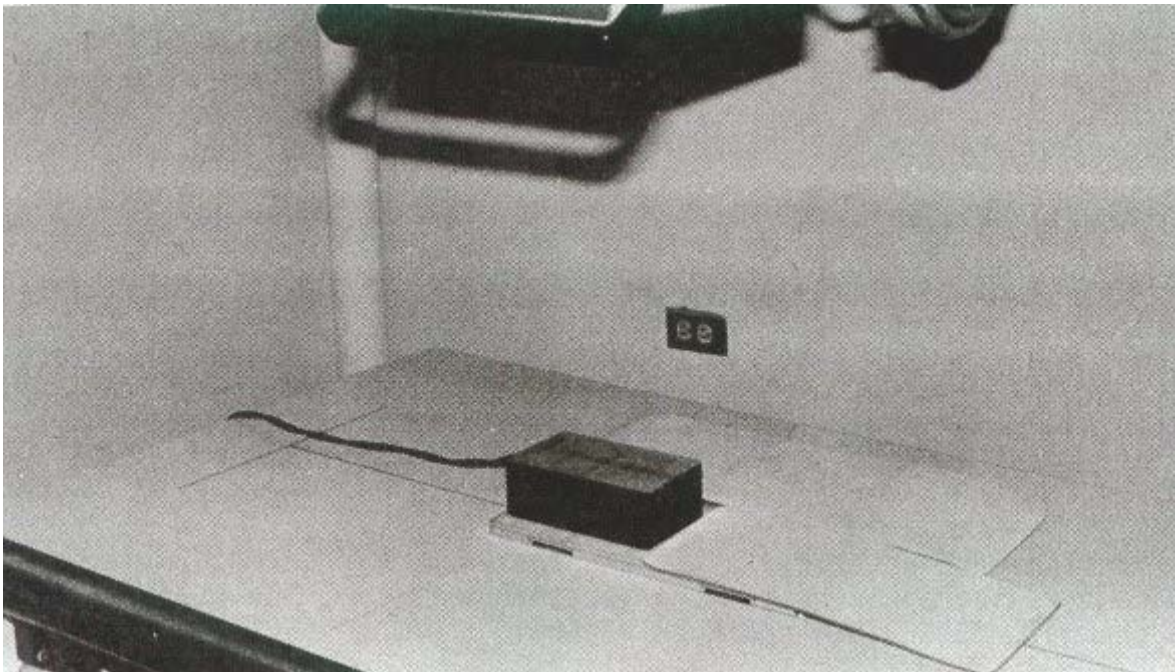

Figure 4-10. Final exposure.
- (d) 300 mA at 1/30 second (see figure 4-10).